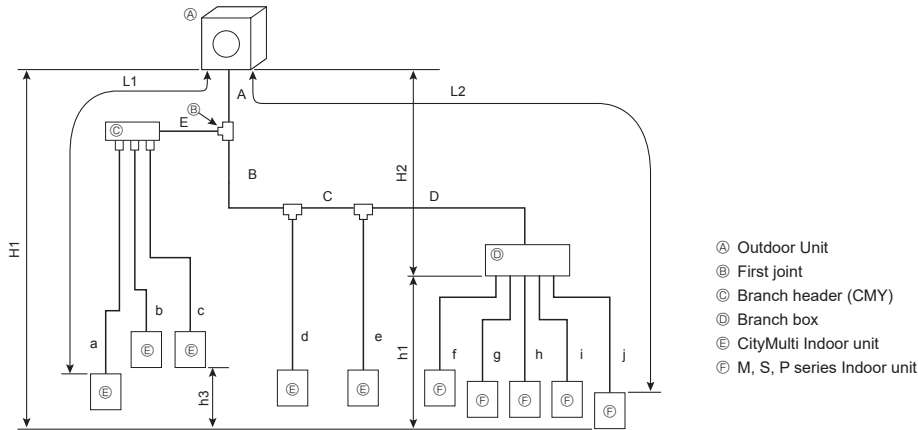

Fig. 4-5 (a)
4.3.3. Mixed system (City Multi indoor units and M, S, P series indoor units via Branch box) (Fig. 4-5)